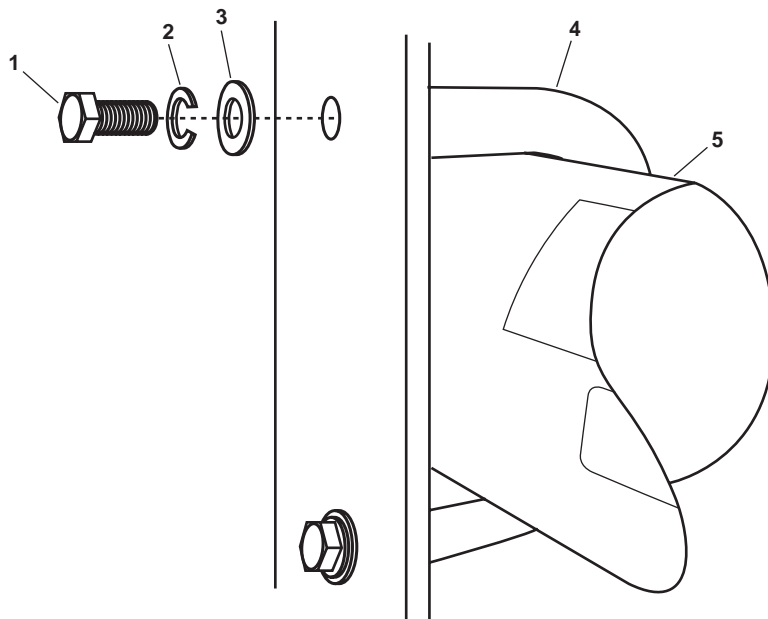

Figure 2. Membrane Mounting Hardware
4. Remove the four bolts (figure 2, item 1), the four lockwashers (figure 2, item 2), and the four flat washers (figure 2, item 3). Discard the lockwashers.
5. Remove the U-brackets (figure 2, item 4) and the membrane and vessel subassembly (figure 2, item 5).
1. Install the membrane and vessel subassembly (figure 2, item 5), and secure it in place with the U-brackets (figure 2, item 4), four sets of bolts (figure 2, item 1), four new lockwashers (figure 2, item 2), and four flat washers (figure 2, item 3).